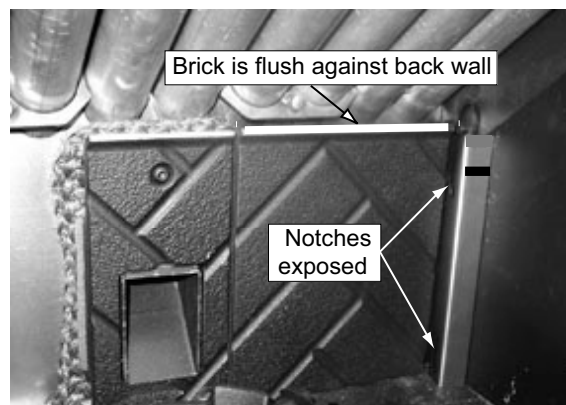

Figure 34.5
2. The brick will be flush against the back wall and notches exposed in the side bracket. **Figure 34.5**.